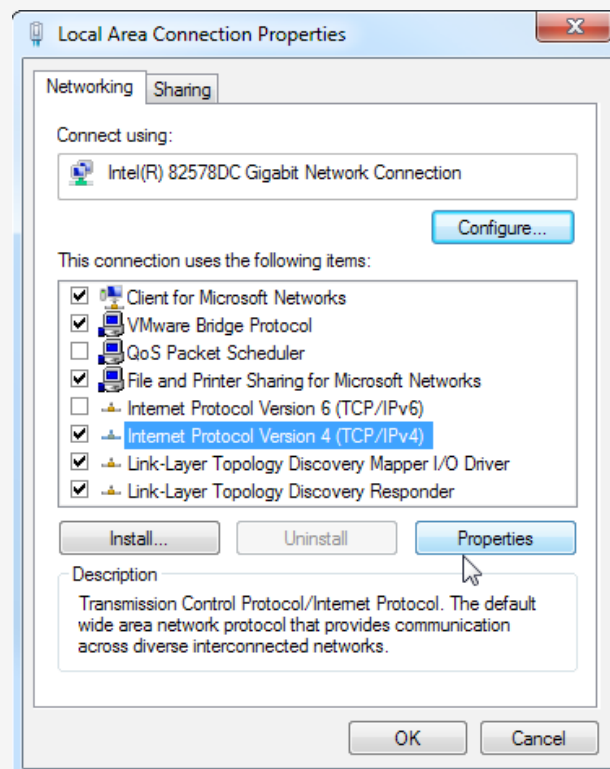

Fig. 10. Network connection properties window
- in the window that appears, select the item “Internet Protocol Version 4 (TCP/IPv4)” and click the “Properties” button (fig. 10);